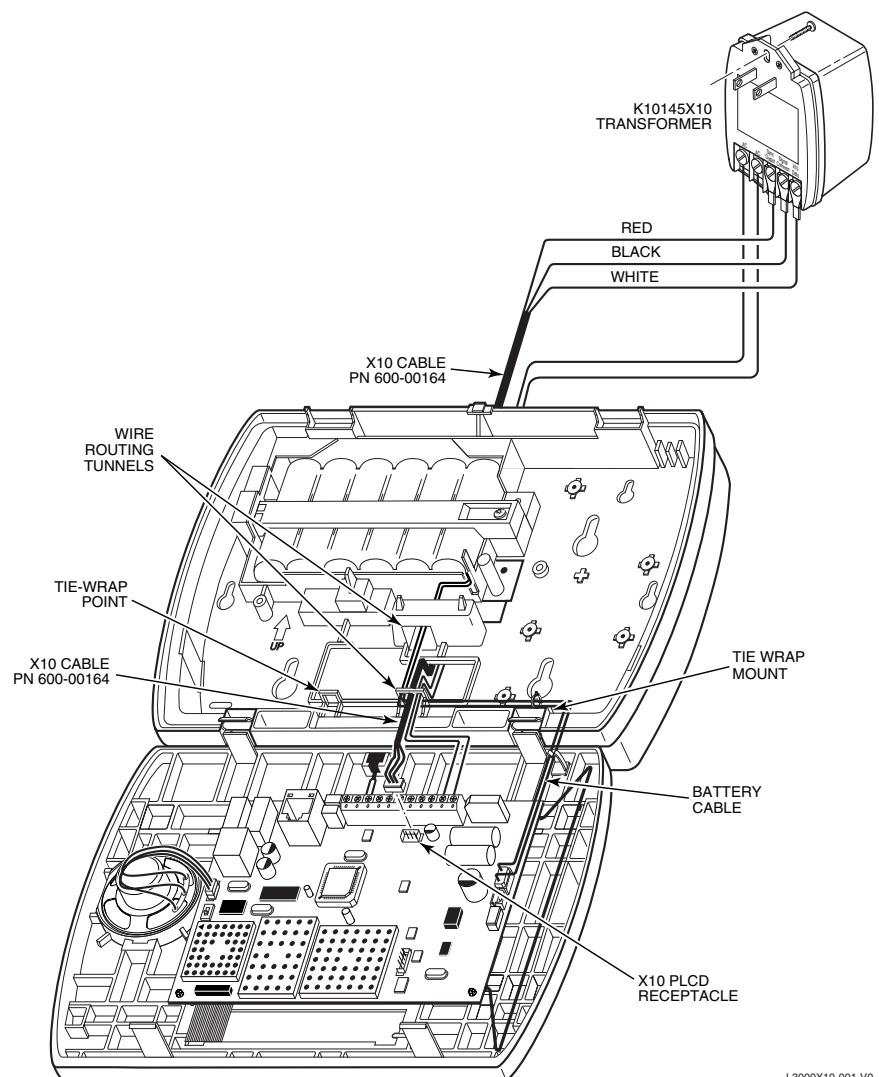

Figure 1. Installing the K10145X10 Transformer
1. Connect the three pin com/data/sync/ connector on the X10 Cable P/N 600-00164 cable to the X10 PLCD receptacle on the control. (refer to Figure 1 and the Summary of Connections.)
2. Connect the wires between the AC terminals on the K10145X10 transformer and terminals 10 and 11 on the control panel. (Refer to Figure 1 and the Summary of Connections contained in the Installation and Setup Guide for the control.)
3. Route the X10 Cable P/N 600-00164 cable and the power wires through the wire routing tunnel as shown on Figure 1.
4. Connect the three spade terminals from the X10 Cable P/N 600-00164 cable to terminals on the K10145X10 transformer as shown on Figure 1.